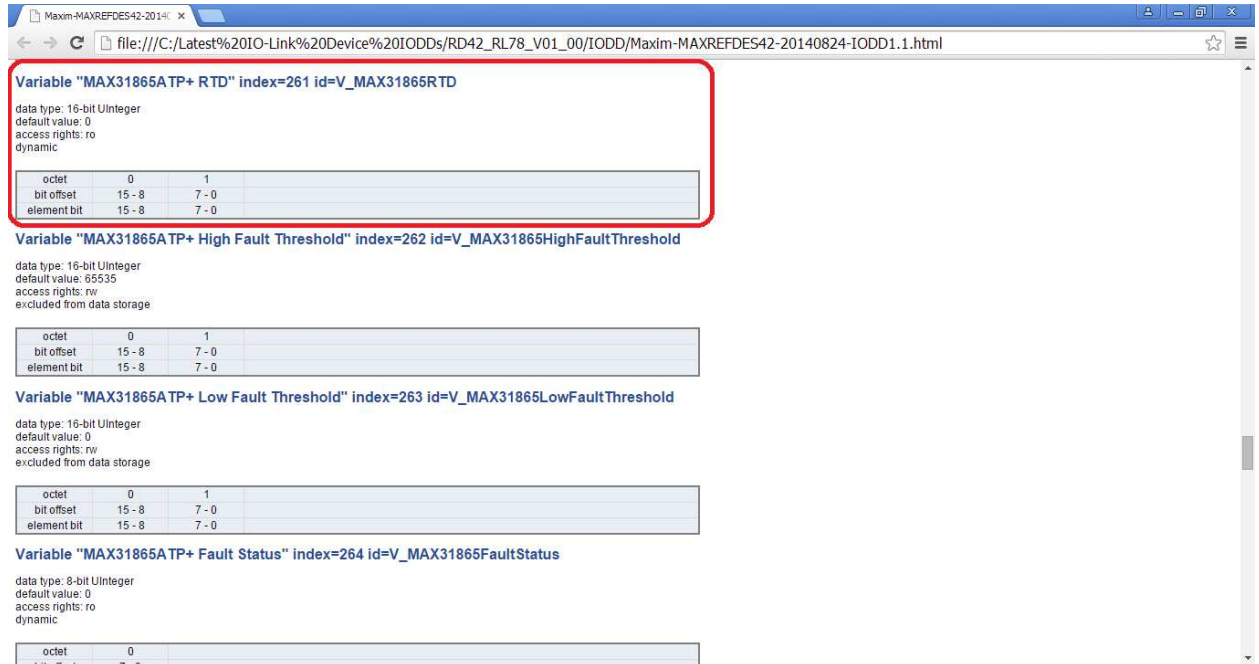

Figure 13. .html index definition file – Index 261.
13. Open the **Maxim-MAXREFDES42-20140824-IODD1.1.html** file to view the index numbers and data formats. Go to the index 261, which is the MAX31865 RTD code register value variable as shown in Figure 13. **Note: RTD code register value is shifted by 1 bit so the value read back needs to be divided by two.**